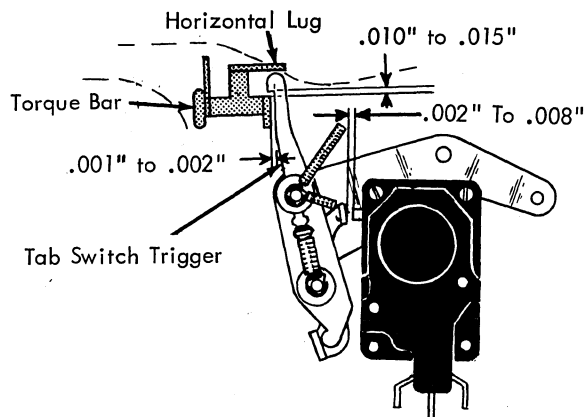

FIGURE 161. Tab Interlock Switch (Late)
1. Interlock Switch (Fig. 161)